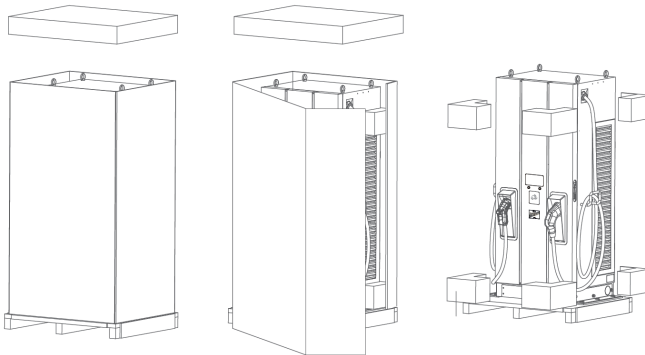

Figure 6. Unboxing 2
2) Remove the carton, packing cushion, and film. See Figure 6.